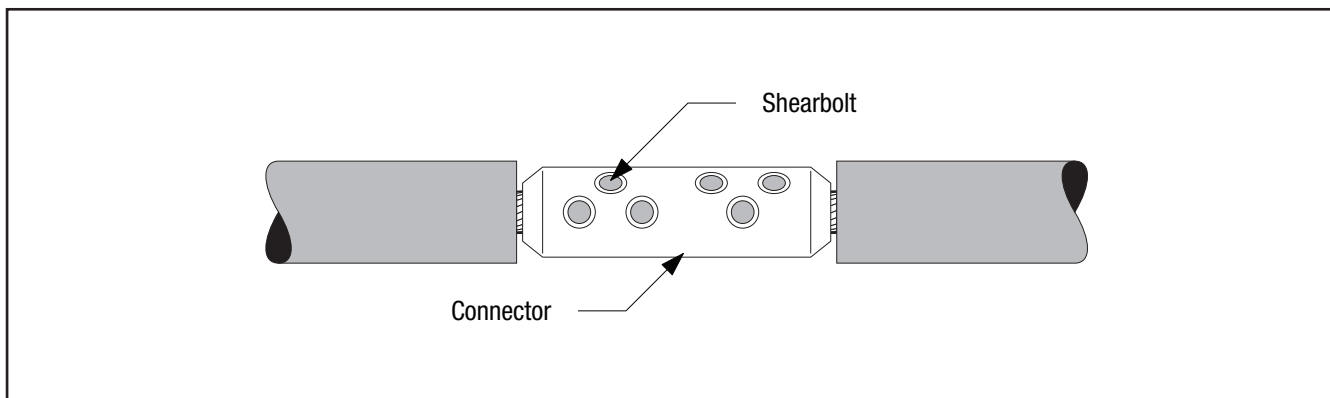

Figure 5
3.2 Install 3M Shearbolt Connector QCI 4/0-600 according to the instructions included with the connector (Figure 5).